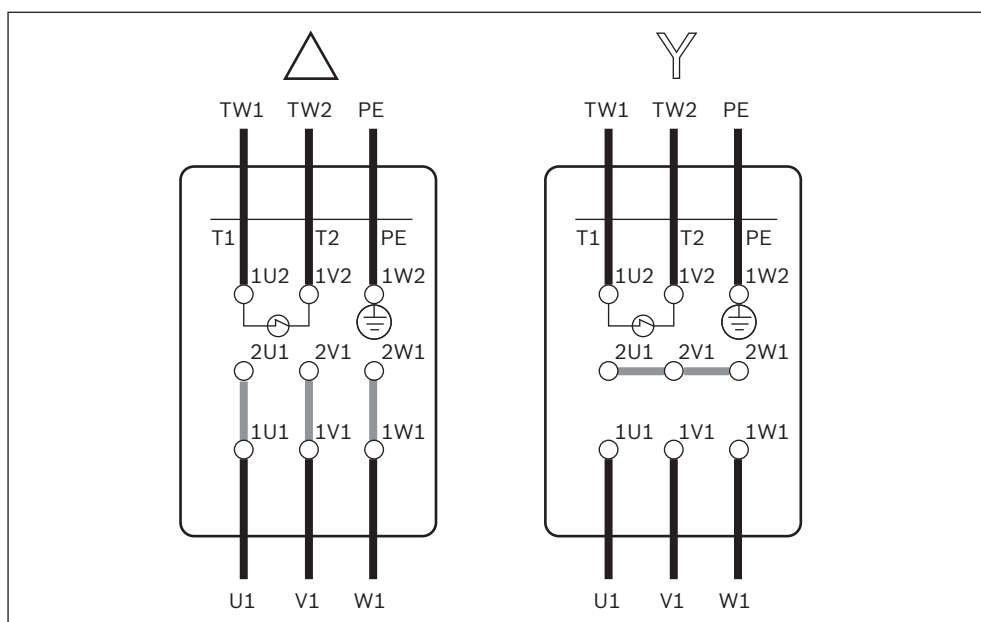

Fig. 31: Delta/ye wiring diagrams
- Connect the motor in either a wye or a delta configuration in accordance with the wiring diagrams, see Fig. 31 on page 45, and the wiring diagram in the terminal box.
- Switch any two wires (U1, V1 or W1, see Fig. 31 on page 45) to change the motor's rotational direction.